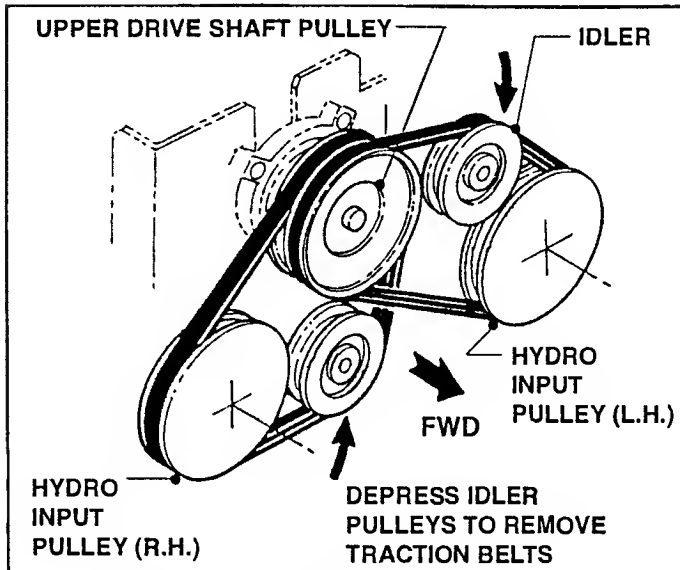

FIGURE 5.10
- Depress Idler Pulley and remove Traction Belt from Input Pulley. See Figure 5.10, Pg. 5.6.